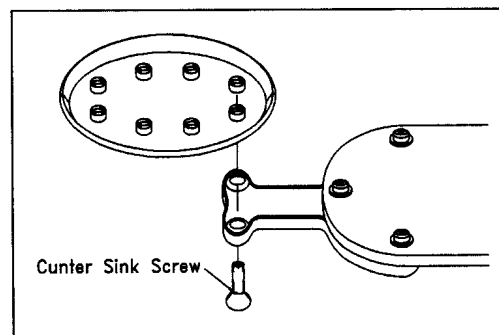

Figure 5
- Obtain countersink screw. See Figure 5